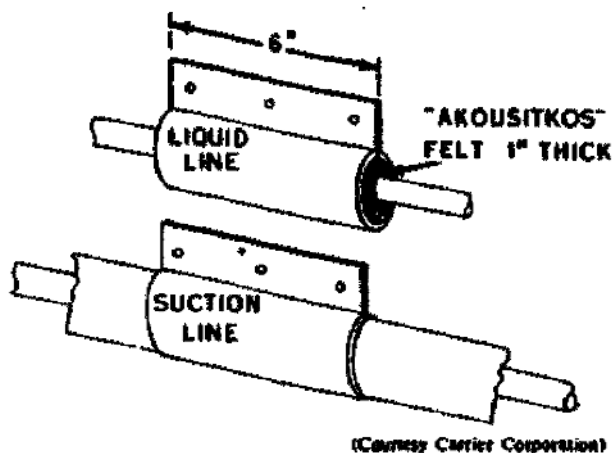

Figure 14. Vibration isolation type hanger.
7. **Piping and Accessories.** The liquid and suction lines are usually constructed of soft copper tubing. To help absorb vibrations, loop or sweep the two lines near the condensing unit. Use a vibration isolation type hanger, show in figure 14, to fasten the tubing on walls or supports.